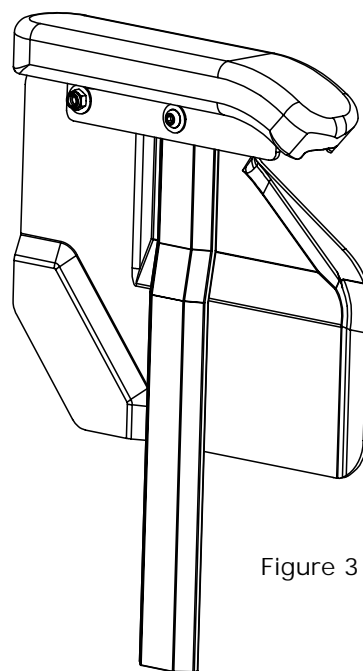

Figure 3
5. Push the armrest down into the mounting. (Figure 3)
7. Adjust using the socket head cap so that the side guard can be easily slotted in and removed. (Figure 3)